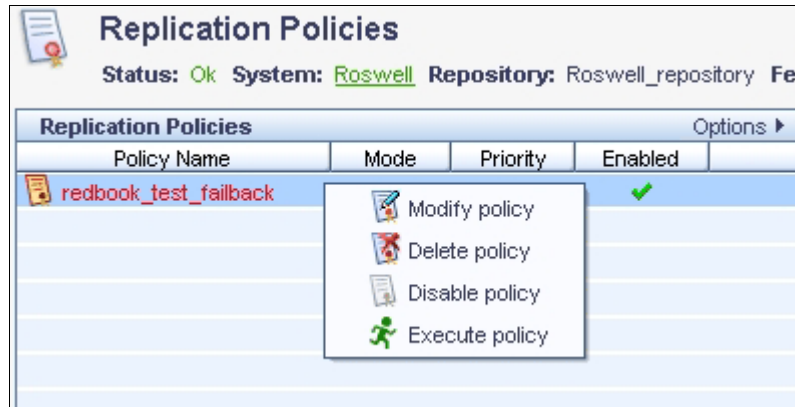

Figure 11-14 Execute replication policy
- Right-click your policy and click **Execute** (Figure 11-14). The failback policy starts. Depending on the number of cartridges and the amount of data, it can take some time for the failback procedure to finish. You can observe the progress of replication in the Activities view in your ProtecTIER view pane.